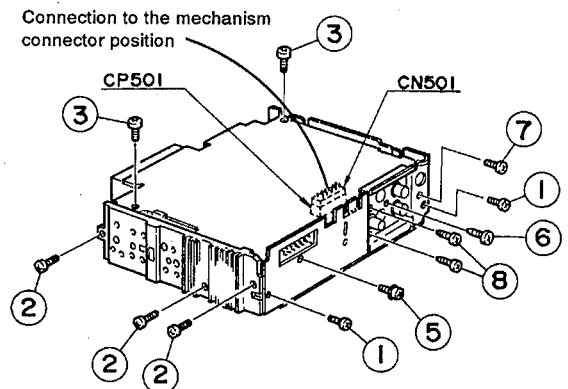

Fig. 4-4
- ◆ **Removing the main P.C.B. assembly (with rear panel)** (See Fig. 4-4)
1. Remove two screws ① retaining the rear panel to the chassis.
2. Remove one screw ② A retaining the IC to the heat sink.
3. Remove two screws ③ retaining the main board assembly.
5. Remove two screws ② to remove the heat sink.
- ◆ **Removing the rear panel** (See Fig. 4-4)